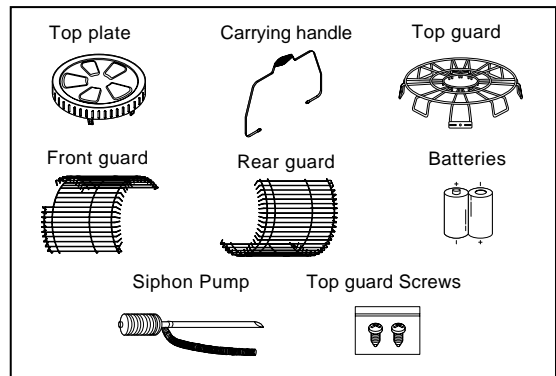

Fig.2
1. REMOVE THE HEATER AND ALL PACKING MATERIALS FROM THE BOX. (Fig.2)